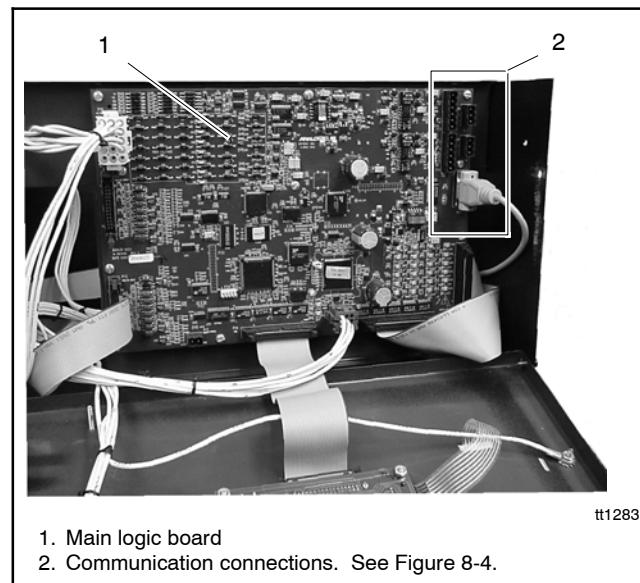
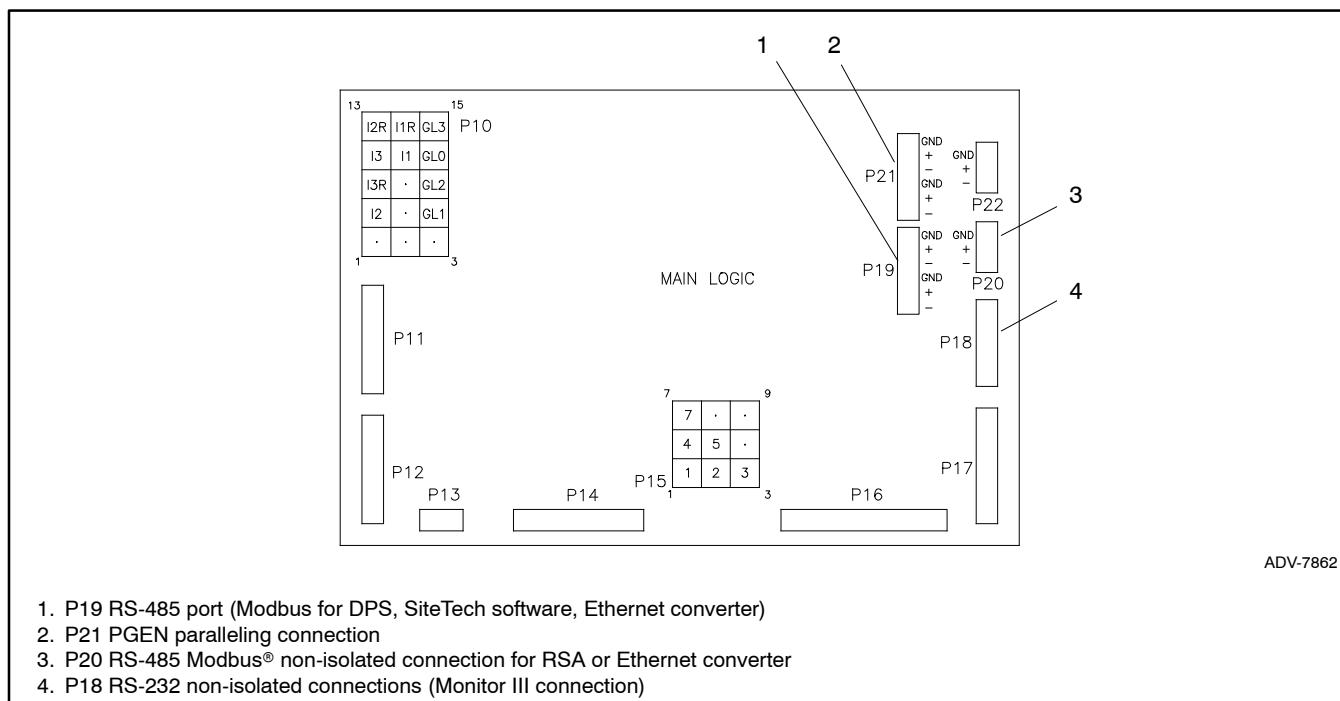

Figure 8-3 Communication Port Locations for Decision-Maker 6000 Generator Set Controller
Figure 8-4 Communication Connections Pin Identification
5. Open the enclosure and locate the connection ports as shown in Figure 8-3 and Figure 8-4.